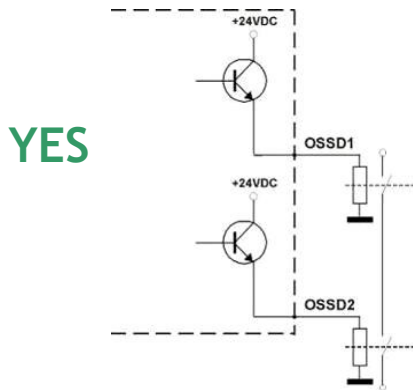

Fig. 19
- The OSSD1 and OSSD2 safety contacts cannot be connected in series or in parallel, but can be used separately (Fig.19), conforming to the plant’s safety requirements.